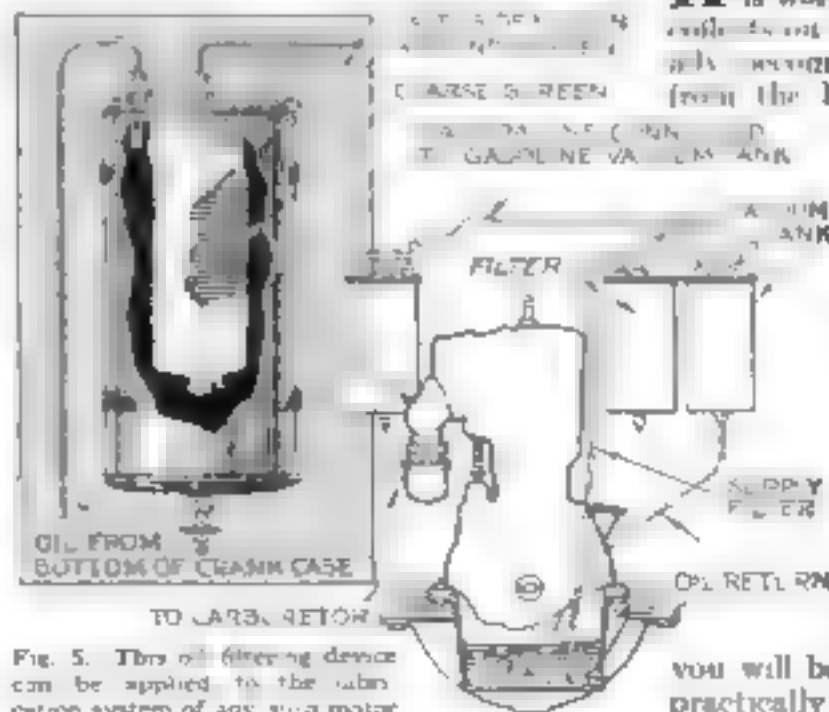

Fig. 5. This oil filtering device can be applied to the lubrication system of any auto motor.
E. E. LINDSAY, of Champaign, Ill., wins this month's \$10 prize with his suggestion of an oil filter (Fig. 5). Each month **POPULAR SCIENCE MONTHLY** awards \$10, in addition to regular space rates, for the best idea sent in for motorists. Other contributions published are paid for at the usual rates.
FIG. 5 shows a homemade oil filtering system that can be applied to any automobile to make it modern and up-to-date.